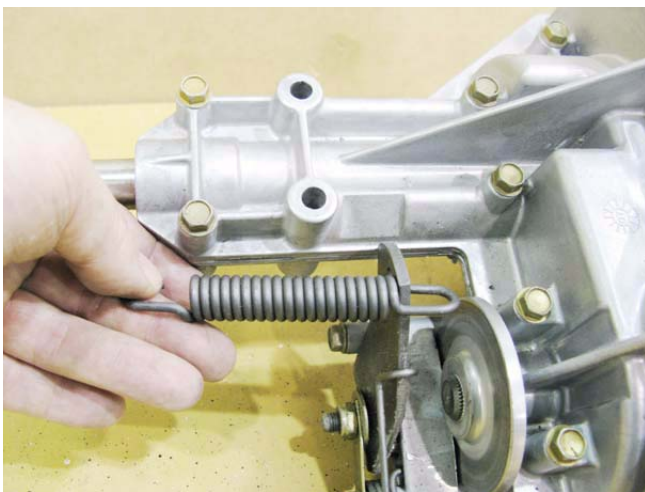

Figure 5.61
- 6a. Unhook and remove the brake spring. See Figure 5.61.